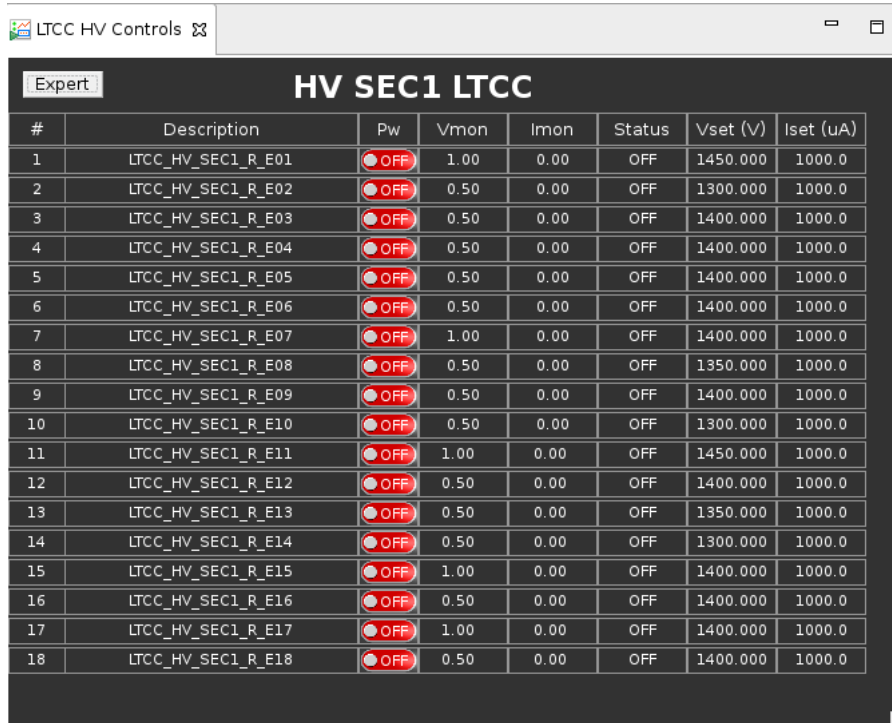

Figure 7: LTCC HV “novice” channel controls screen.
If the “Controls” option is selected for a sector or a left/right part of a sector, a “novice” window is opened as shown in Fig. 7. This window shows the monitored channel voltage and current ( $V_{mon}$  (V) and  $I_{mon}$  ( $\mu A$ )), the channel status (OFF, ON), and the set channel voltage and current ( $V_{set}$  (V) and  $I_{set}$  ( $\mu A$ )). If desired, shift workers can toggle the HV settings for single channels on or off through this interface.